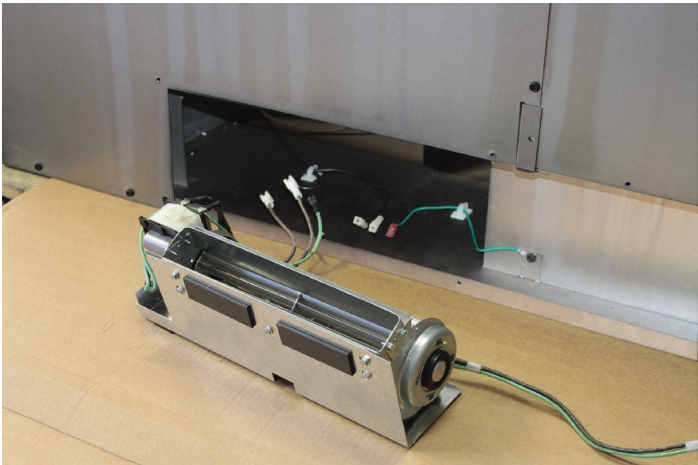

Figure 2
4. Place blowers on the floor behind the fireplace. Position the blowers with the two black connecting wires and green ground wire towards the left hand side when facing the back of the fireplace. **See Figure 2.**